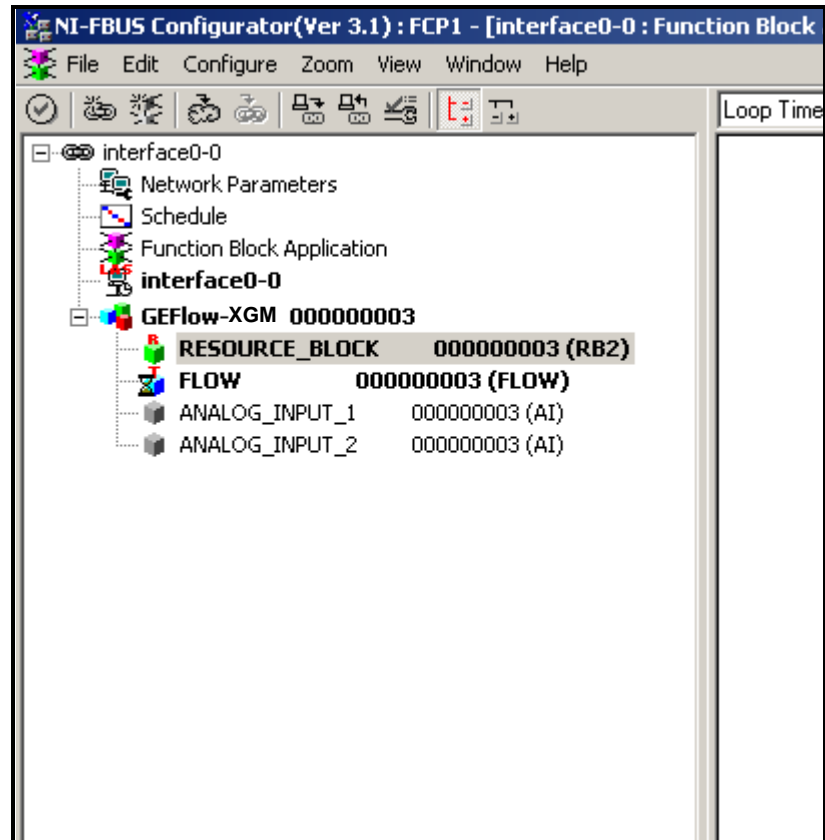

Figure E-1: Configuration Utility Setup Example
Figure E-1 below shows the Configuration Utility with a flowmeter on the network (GE Flow-XGM).
1. Double click on the AI block for which you wish to set the units (ANALOG\_INPUT\_1 or ANALOG\_INPUT\_2 in the tree under GEFlow-XGM; see Figure E-1 on page E-2).
1. Double click on the FLOW transducer block (in the tree under GEFlow-XGM; see Figure E-1 on page E-2).